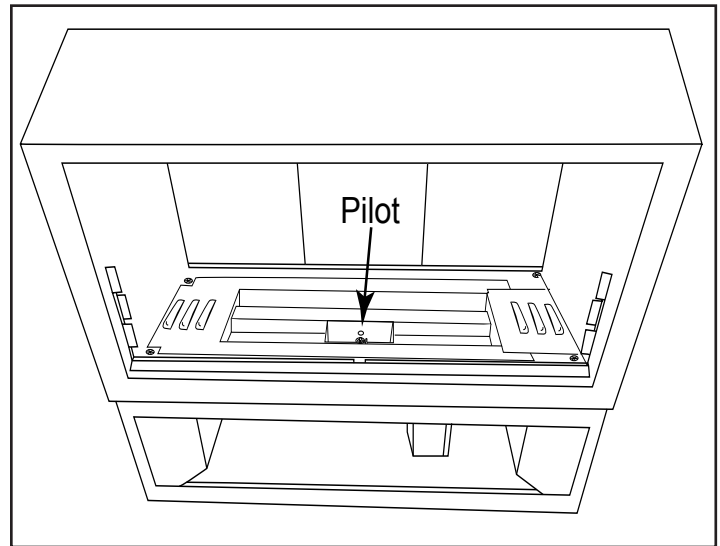

Fig. 24 Shows burner pan installed into fireplace.
Step 5: Install the burner pan back into the fireplace. See Fig. 24.
Open the media box and install the glass media as shown in Figs. 24 & 25. Place media fireglass into the trough area first as shown in Fig. 24. Use the remaining media to fill the burner pan equally on both sides. After filling the trough reinstall the mesh hood overtop of the pilot area.
Note: Media amounts listed in Table 8 are guides and can vary depending on media used. Ensure not to cover more than 1/2 -inch above the actual burner tube and keep all media within the burner pan area (See Figs. 24, 25, & 26).